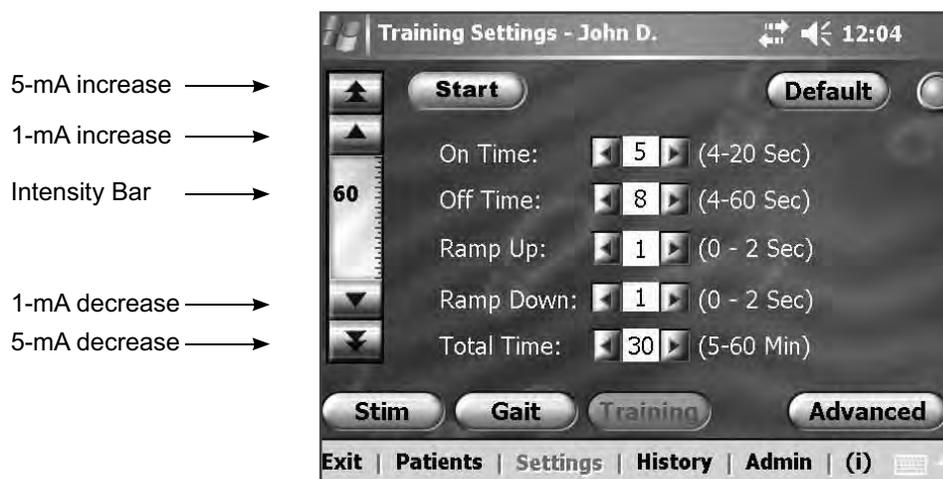

Figure 9-12: Training Settings window.
1. Press **Training** to open the Training Settings window. See Figure 9-12.